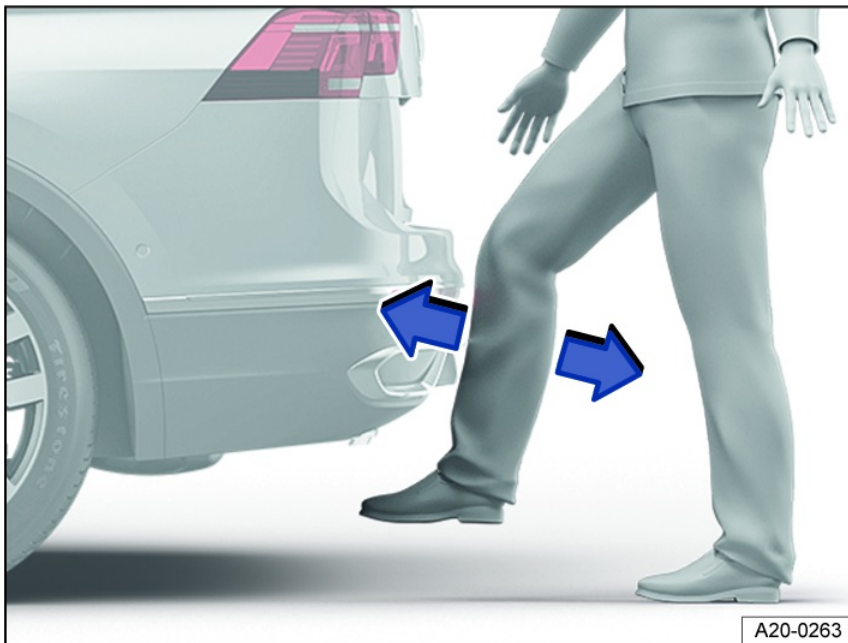

Fig. 61 General example of the trunk lid with sensor-controlled closing (Easy Close).
2. Quickly swing the lower part of your leg close to the bumper *fig. 61*.